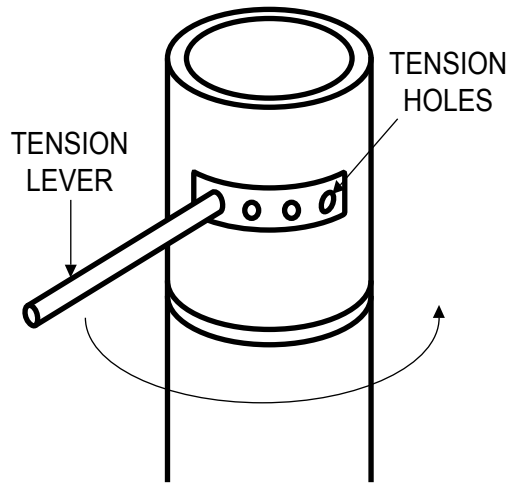

FIGURE 1
- B. Do not exceed three (4) holes tension for 180 degree door opening, or four (3) holes tension for 90 degree opening.
- A. Insert tension lever into left hand hole in adjustment cylinder and rotate tension lever to the right as shown in figure 1.